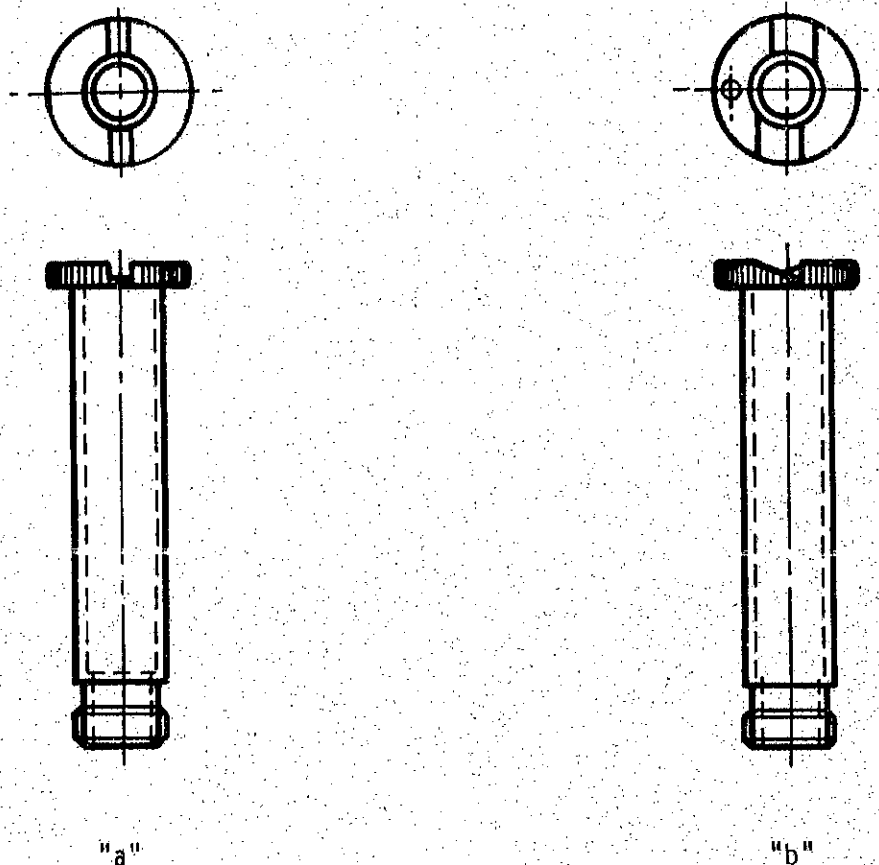

Fig 1
7.1.1 Examine the equipment to determine whether the modification has been carried out. Unmodified equipments will have a screw slot as shown in Fig 1 "a", modified equipments will have a "cut away" slot as shown in Fig 1 "b".